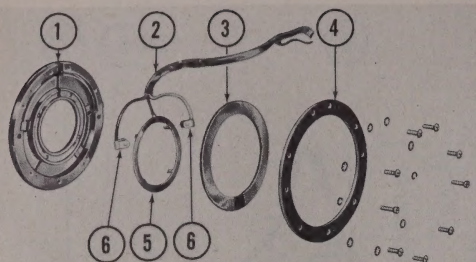

Figure 332 — Exploded View of Potentiometer Assembly
(h) (See figure 332.)—The potentiometer (3) is held in the assembly by an insulating retaining ring (4) which is fastened to the potentiometer base (1) by seven screws and spring lock washers. The collector ring assembly (5) is clipped into the balance potentiometer base and the lead wire contacts (6) set into recesses in the base (1) so that they make proper contact with the potentiometer winding.